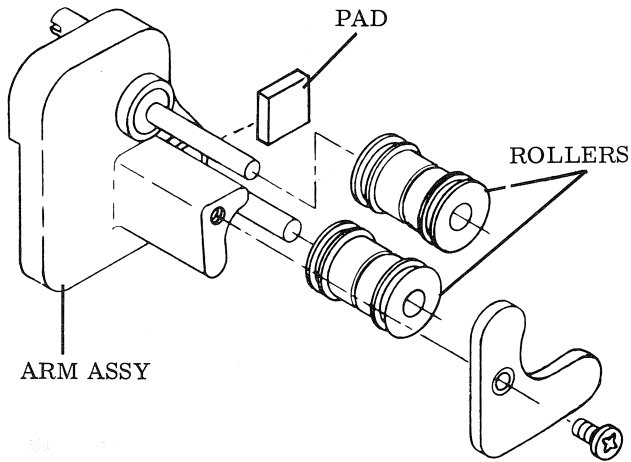

Figure 3-19. TAKE-UP SPROCKET SHOE ARM COMPLETE
6. Take-up Sprocket Shoe Arm Complete (Figure 3-19)